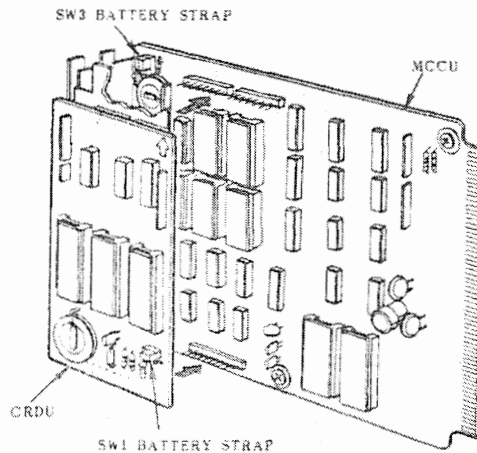

FIGURE 9
**06.32** Connect the memory back-up battery on the MCCU (and on the CRDU if the system is so equipped). Refer to Figure 9, locate the SW1 battery strap on the CRDU, and the SW3 battery strap on the MCCU; the plugs are shown in the off or disconnected position. To connect each battery, remove and reinstall the strapping plugs so that they bridge the center pin with the pin labeled **ON**.